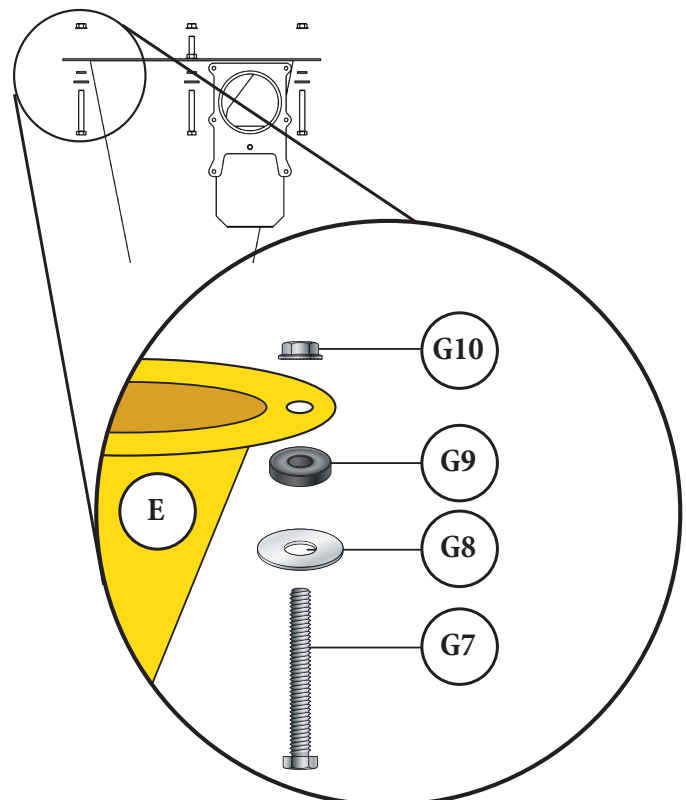

FIG. 14
- 15** Install the three remaining Hex Head Bolts (G7), Flat Washers (G8), Rubber Washers (G9), and Whiz-Lock Nuts (G10) to the three remaining holes in the Cyclone's (E) upper flange [FIG. 14].